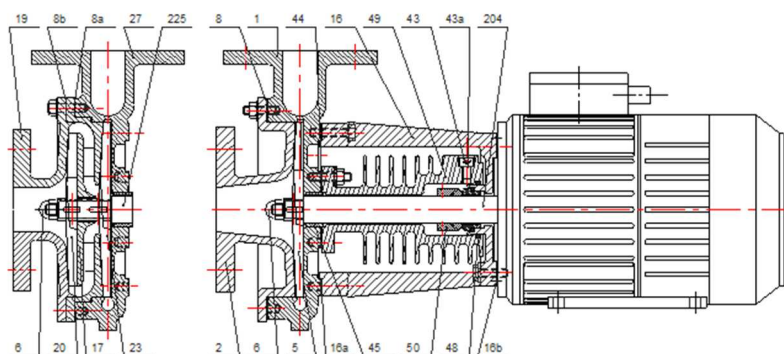

Fig 3
- The 109-212-215-315 pumps can be mounted either in single cell or multicellular, according to fig 3